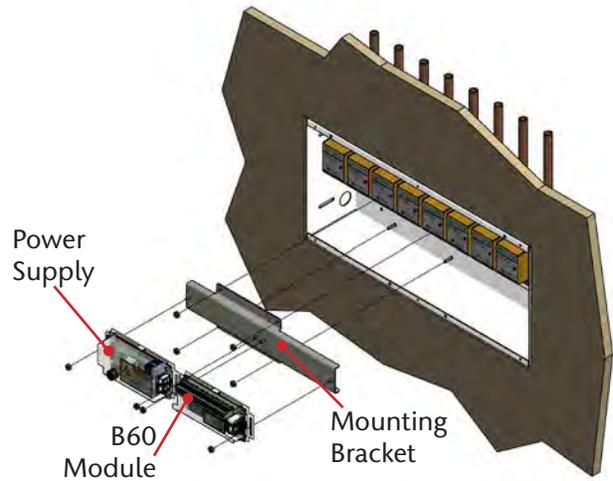

Figure 121: Power Supply, Module Mounting
- a. Install the 2 position metal standoff bracket that is included with the additional trim kit onto the studs the power supply was removed from (Figure 121).